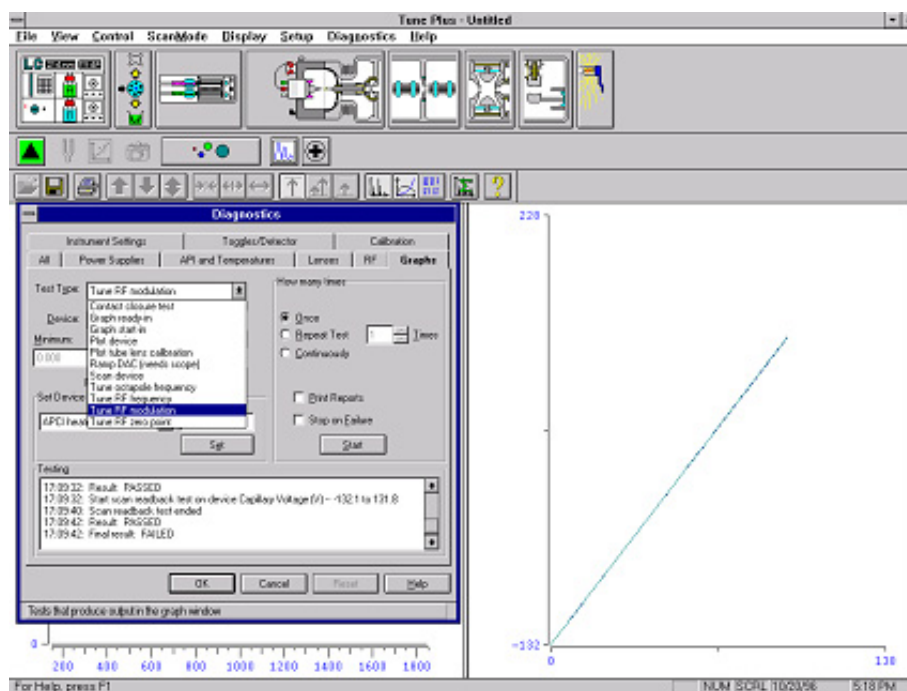

Figure 5-9. Diagnostics dialog box and Graph view
- d. Reposition the Diagnostics dialog box so that it does not obscure the Graph view. See Figure 5-9.